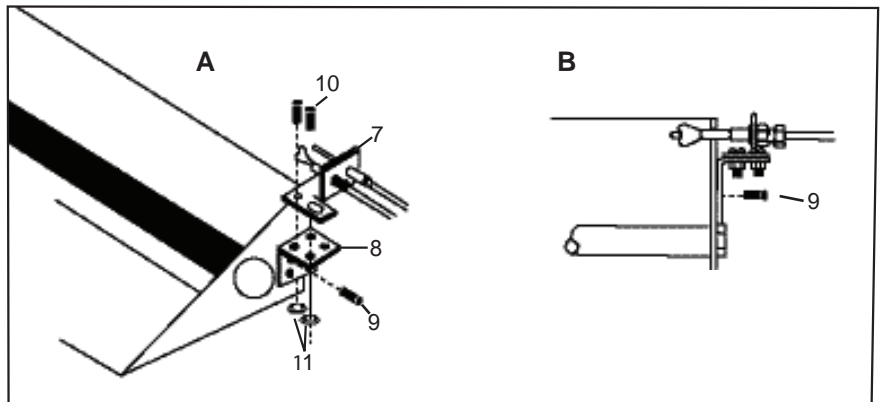

Figure 1 (A&B) Pilot Burner Assembly
- B. Attach Pilot Bracket (Part #8) to the Burner Pan using one sheet metal screw (Part #9). Install sheet metal screw into top left hole of the bracket (See *Figure 1*)